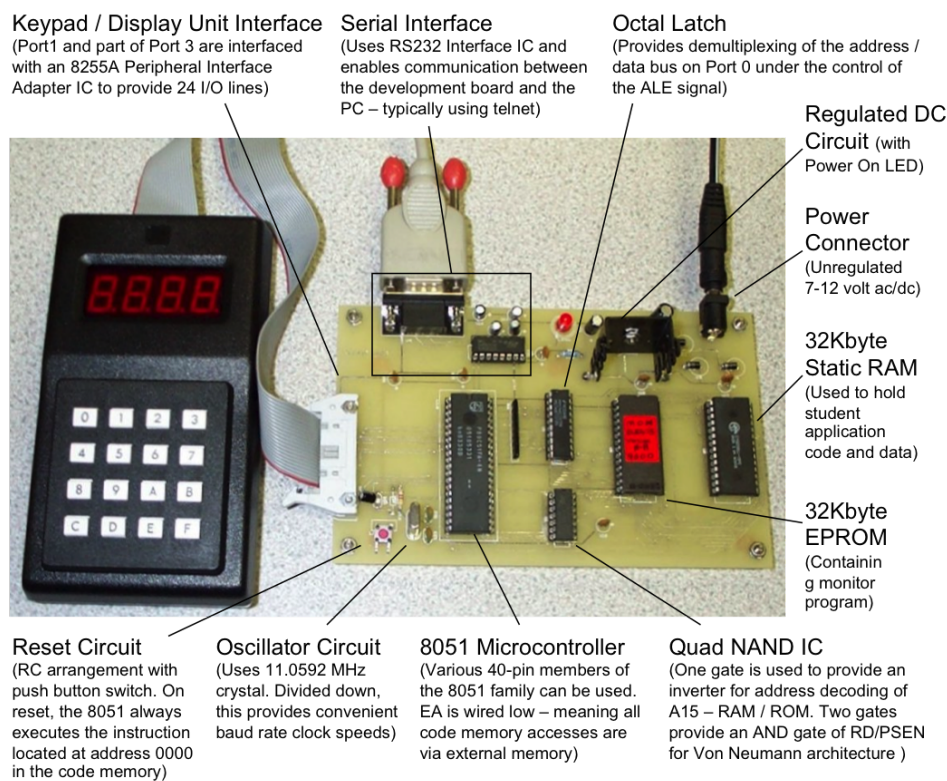
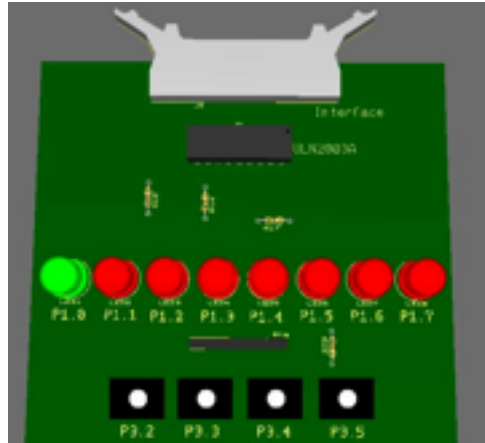

Figure 1: The 8051 Development Board
Figure 2: The LED/Switch Module
The development board is shown in Figure 1. Upon reset, the microcontroller begins to execute instructions, starting from location 0000 hex whenever it is first powered up or when the reset button is pressed. This corresponds to an address in the EPROM. The EPROM holds a small program, called a monitor, which initializes the development board and allows it to communicate with a PC. The monitor program supports a number of commands that it receives through the serial interface. These include commands to download an Intel Hex formatted application program and place it at a chosen location within the memory. The monitor can then be instructed to execute the program starting from this given address. This provides a straightforward way to download and execute programs developed within the MCU8051 environment.
1. On the Development Board, connect the LED/Switch Module (as shown below in Figure 2) to the connector labelled Keypad/Display Unit Interface in Figure 1 using the ribbon cable provided.